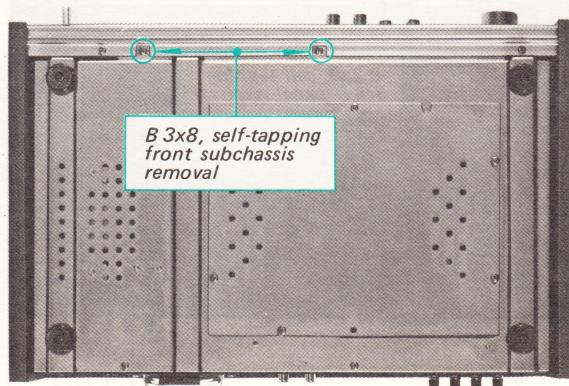

Fig. 2-8. Front subchassis removal
1. Remove the two screws from the front bottom of the chassis as shown in Fig. 2-8.